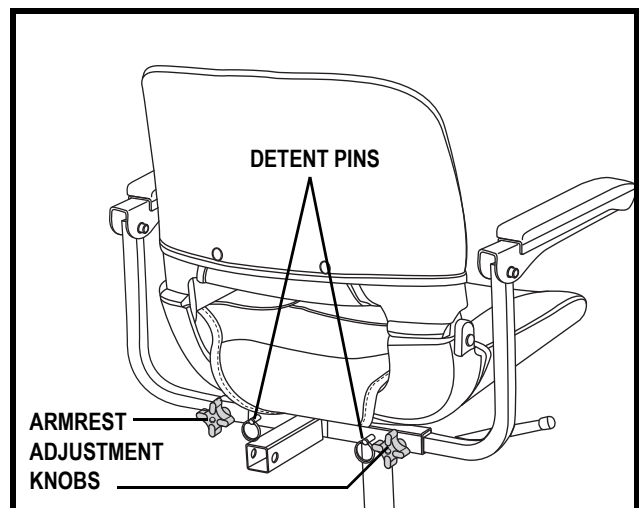

Figure 18. Armrest Width Adjustment
1. Loosen the armrest adjustment knobs. See **figure 18**.